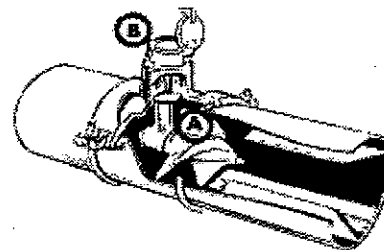

Fig. 1. Propeller-type meter for use in pipes.
Flow meters are excellent devices for measuring flow in an irrigation pipe. A typical flow meter is shown in the cutaway view, fig. 1. The main parts consist of a propeller (A) mounted in a short section of pipe and geared to a revolution counter (B) which records the rate of flow and the cumulative total. The counter is similar to an automobile speedometer, which shows both the rate of speed of the car as well as the miles traveled.
Closed-conduit flow can be measured by numerous types of devices, such as orifice, venturi meters, electromagnetic and sonic devices, Collins and Cox meters (pitot tubes), shunt meters, and impeller and propeller meters. Each type has specific advantages and disadvantages. This fact sheet discusses only the propeller meter since it is the most common closed-conduit method used in Colorado (Figure 1).
Figure 1: Typical propeller meters for use in irrigation. a) Weld-on in-line type. This type also can use compression-type connectors. b) Flange bolt-on in-line meter. c) Weld-on saddle-type meter. d) Clamp-on saddle meter.